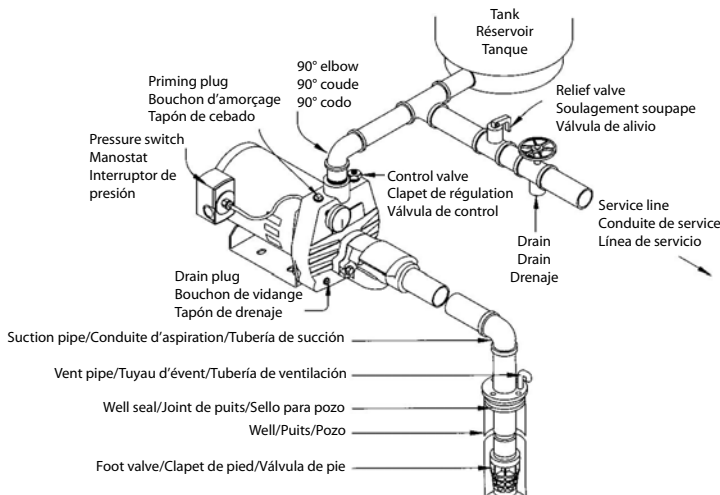

Figure 7
**Service Line:** Connect the service line as shown in Figures 7 - 10. The size of the service line required is governed entirely by the amount of water needed and the length of the pipe. The pipe selected should be large enough so that the friction loss (determined from Table 5, Friction Loss) will never exceed 20 ft. (6m) head.